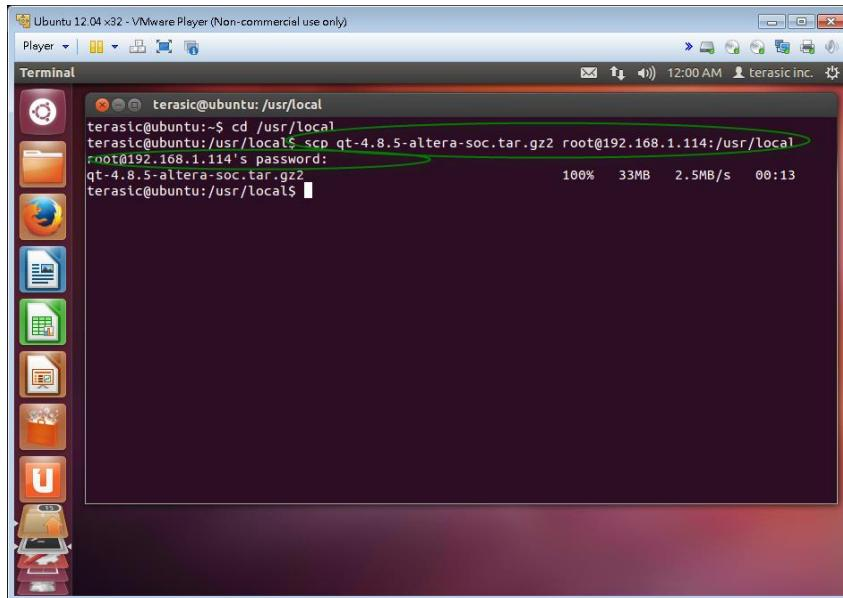

**Figure 6-19 Compressing the QT Library**
**Figure 6-19** shows the screenshot when the compressing process is complete.